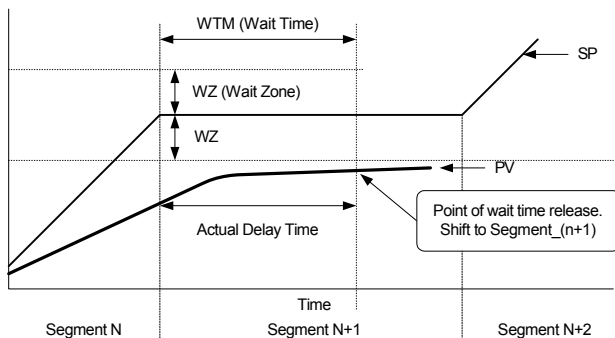

Fig 6: Wait Function Wait Time Release
This is the wait time parameter, which sets the time the program will wait for the PV to enter the wait zone before starting the next program segment. The setting range is OFF (0) to 99.59 (time units set by TMU). When OFF, the wait function will not be enabled. See Fig 6 for more information.